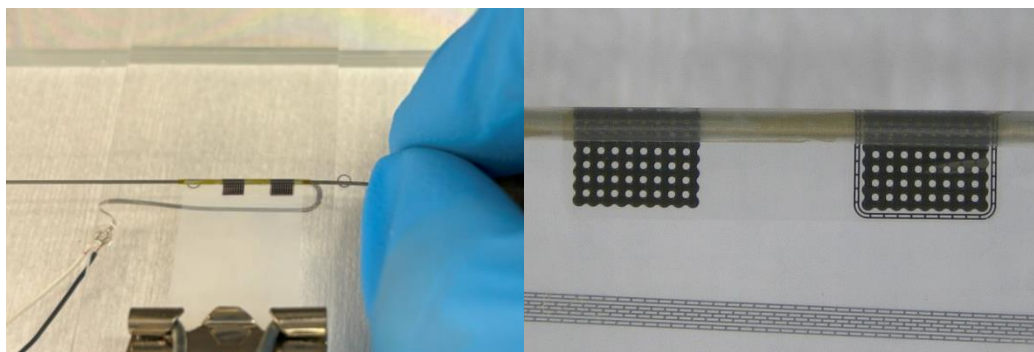

Figure 5-4: Device partially rolled into the thermoforming fixture, with (right) magnified view.
6. Hold the Teflon film tight by gently pulling the mandrel away from you and against the heavy block, then roll the mandrel towards you, rolling the Parylene electrodes around the mandrel (see Figure 5-4)